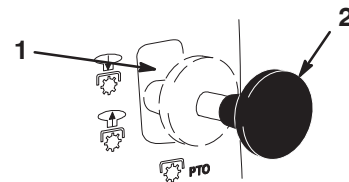

Figure 5
2. Pull the blade control (PTO) to on (Fig. 5).
2. Push the blade control (PTO) to off (Fig. 5).
4. Push the blade control (PTO) to off (Fig. 5).